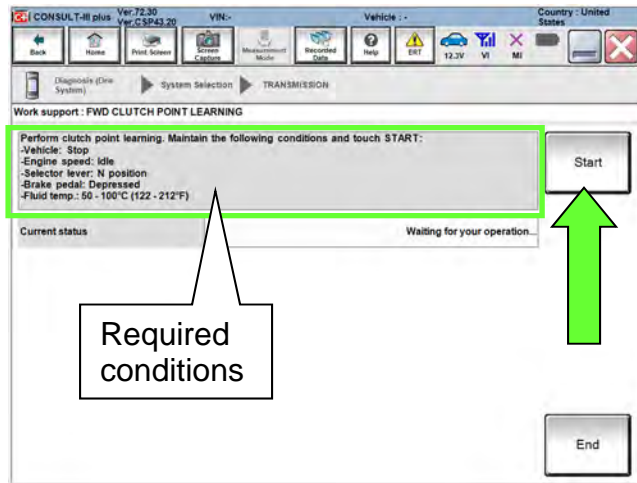

Figure 176
- Confirm that all of the required conditions indicated in Figure 176 are being met.
178. While maintaining all conditions shown in Figure 176 and the “Current status” indicates “EXECUTING”, shift the CVT into **D** and then wait until the Current status indicates “COMPLETED”.